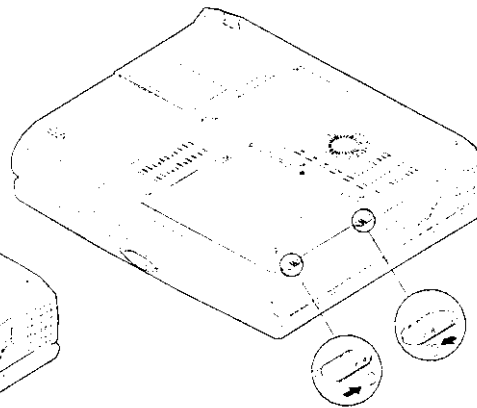

Figure 1-5
2. Press the two latches in the direction indicated to release the battery pack. (Figure 1-5)